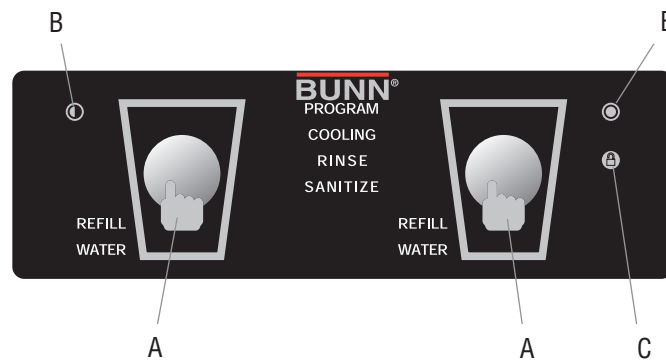
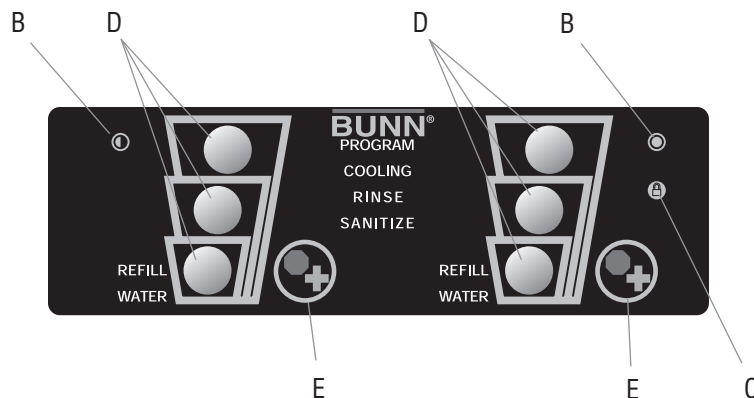

FIG 5 Press and Hold Models
FIG 6 Portion Control Models
Press and hold the “+/STOP Switch” Fig 5, until concentrate dispenses from the dispense nozzle.
### **Press and Hold Models** (Refer to Fig 5)
### **Portion Control Models** (Refer to Fig 6)
5. Press and release the appropriate "Product Dispense Switch" Fig 5. This will initiate a timed rinse cycle. Portion control users can press any of the 3 "Product Dispense Switches" Fig 6, to initiate a timed rinse cycle.
5. Press and hold the "Sanitize Switch" Fig 5, located on the front left portion of the base, for 5 seconds. The "SANITIZE" indicator on the front panel will begin to flash and the beeper will sound twice indicating that you have entered the sanitize mode.